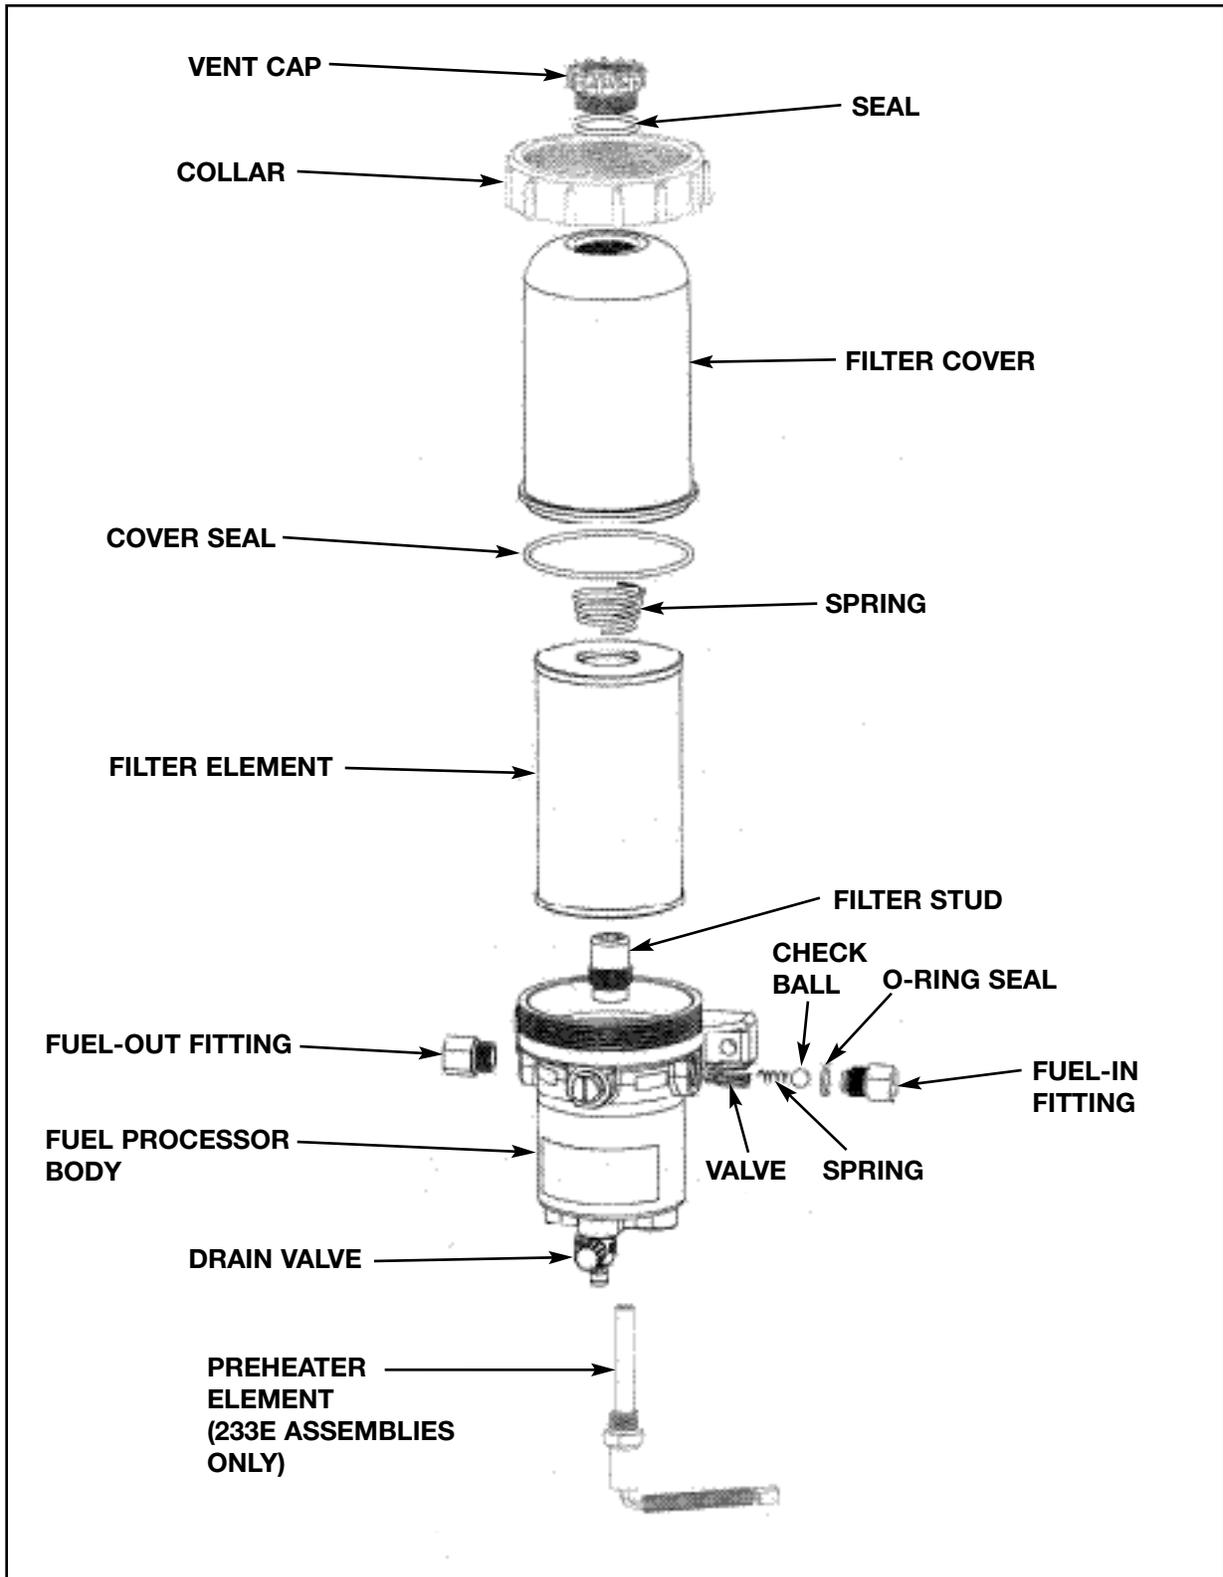
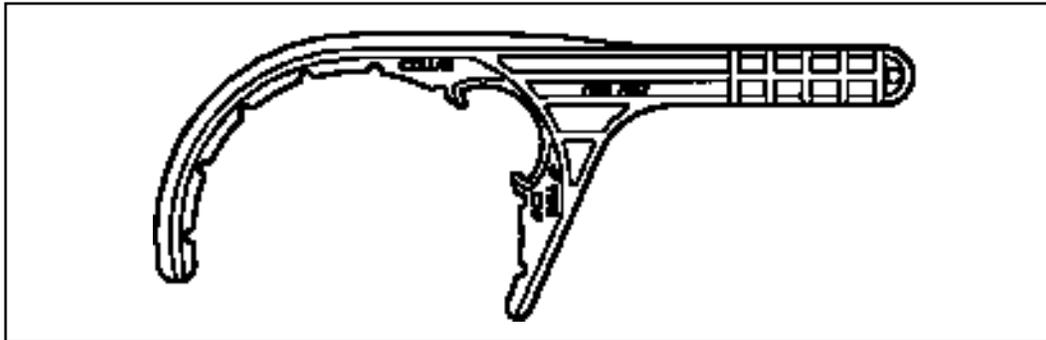

Figure 1. Diesel Pro Fuel Processor Assembly
Figure 4. Collar/Vent Cap Wrench P/N 232002
The Diesel Pro® 233 diesel fuel processor system consists of a fuel processor assembly, a replaceable 5-micron filter element, a removable filter element cover and locking collar, a cover seal, vent cap, vent cap seal, and a collar/vent cap wrench. Kits may also include an electric fuel preheater assembly. See Figure 1. Kit numbers are listed in Table 1.
2. Using collar/vent cap wrench 232002 supplied (see Figure 4), remove the vent cap from the see-through cover by turning counter-clockwise.
2. Place a suitable container under the filter. Using collar/vent cap wrench P/N 232002 provided, loosen the vent cap on the filter cover. See Figure 1 and see Figure 4.